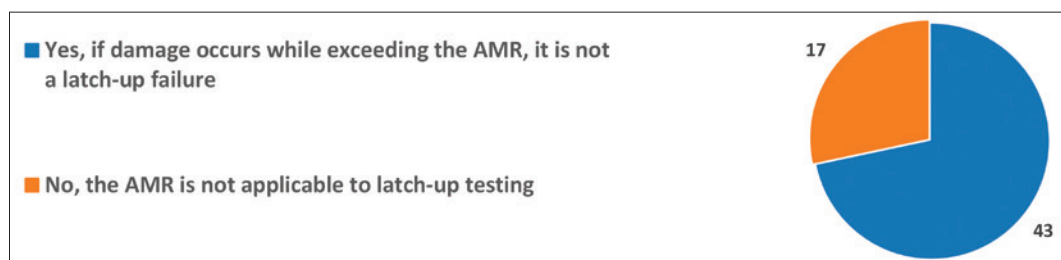

Figure 7: Pie Chart of Responses to [Q90], “Do you set the pin stress voltage limits so that they do not exceed the product AMR?”
- Many respondents believe that the pin stress voltage should not exceed the product AMR, see Figure 7